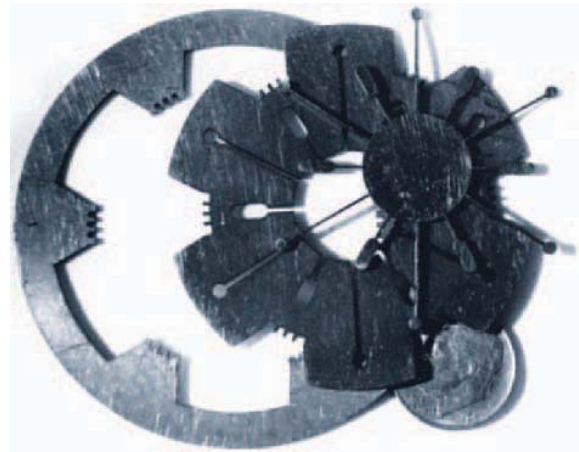

FIGURE 23-9 Because of the narrow kerf, small, detailed parts can be nested one inside the other. Larry Jeffus
- Narrow, smooth, accurate kerf—The width of the kerf is very small, which allows the nesting of parts in close proximity to each other, which will reduce waste of expensive materials, Figure 23-9.